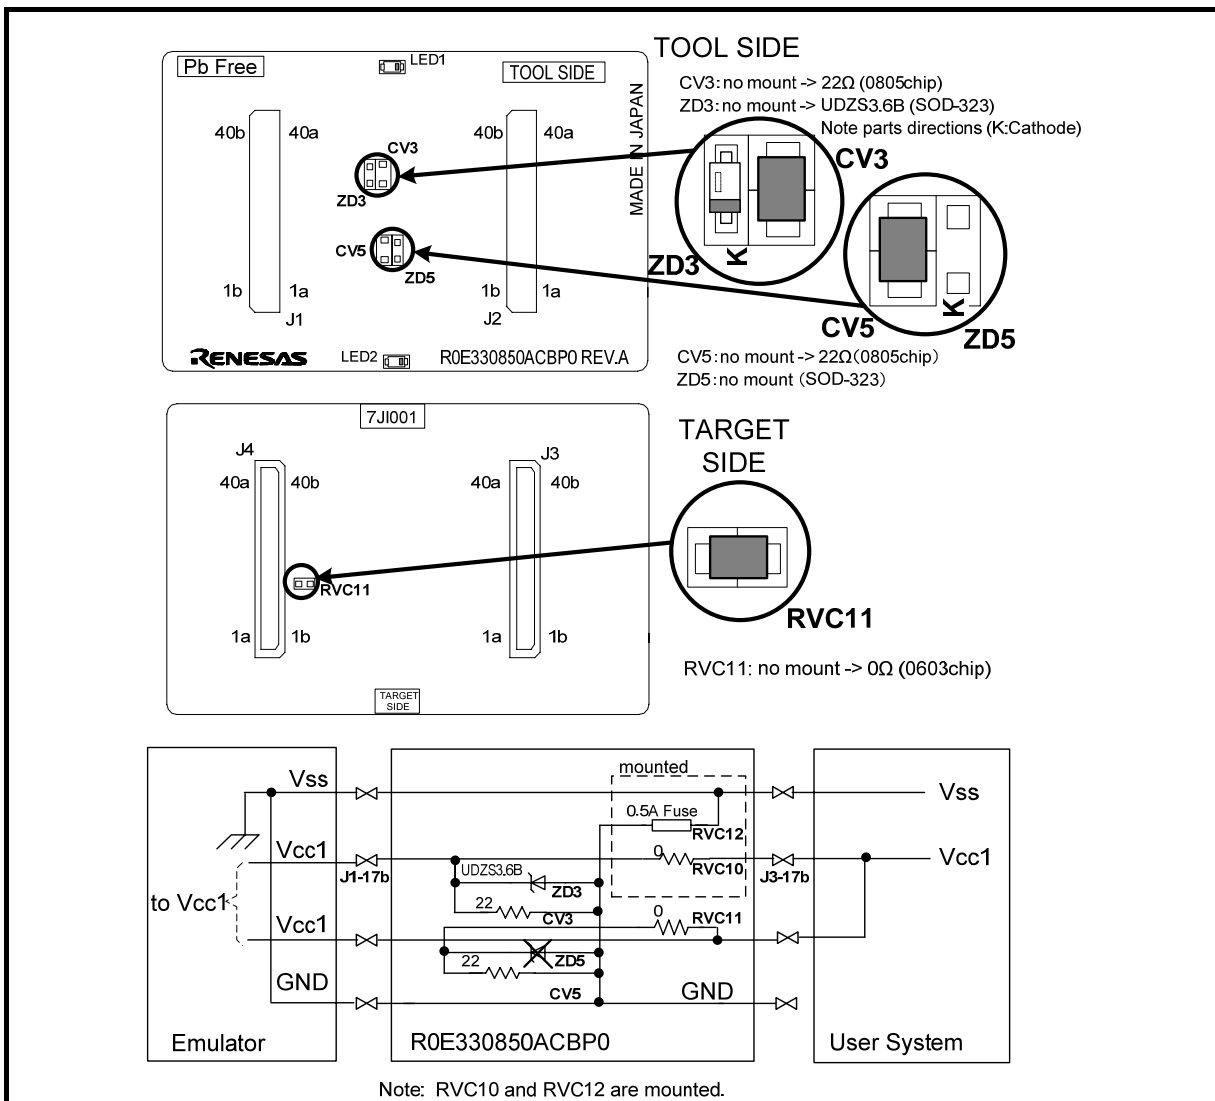

Figure 3 Example of component mounting (When restricting the voltage to 3.6 V or less in the 3.3 V user system)
- If the pins protected against overvoltage are overvoltage, the voltage of the Vcc1 pin may rise up to 5.6 V because of reverse current. When you need to maintain the Vcc1 pin voltage of the user system, add dummy resistance and voltage regulator diode to the power line of the Vcc1. (Figure 3 is a mounting example.)